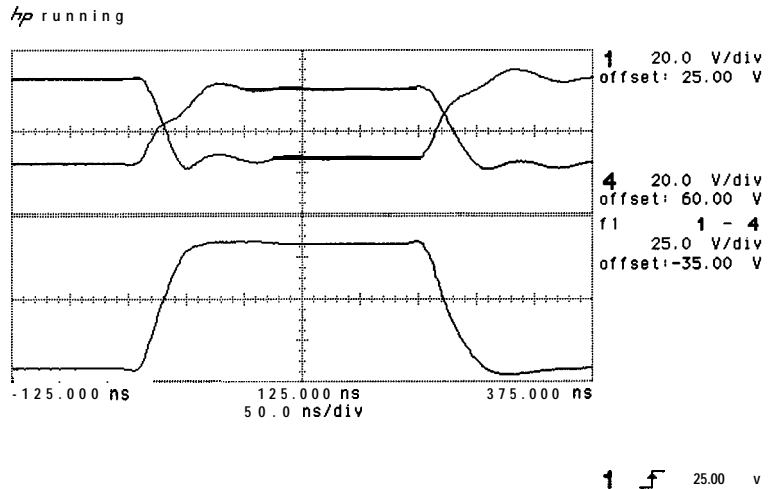

Figure 3-20. Composite X Deflection Waveform
16. Three waveforms should be displayed on the oscilloscope, as shown in Figure 3-20. The lower composite waveform represents